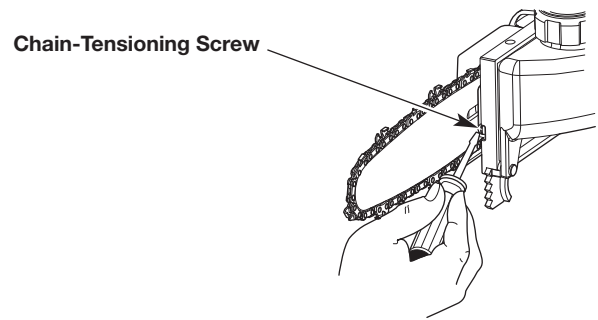
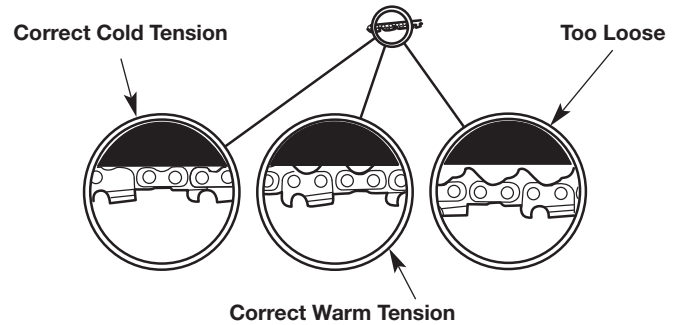

Fig. 13
Fig. 14
2. Use a flat-head screwdriver to turn the chain-tensioning screw counterclockwise four (4) turns (Fig. 13).
2. Hold the guide bar tip up and use a flat-head screwdriver to turn the chain-tensioning screw (Fig. 13). Turning the screw clockwise will tighten the saw chain. Turning the screw counterclockwise will loosen the saw chain. Depending upon the temperature of the saw chain, it should be snug to the guide bar (Fig. 14).